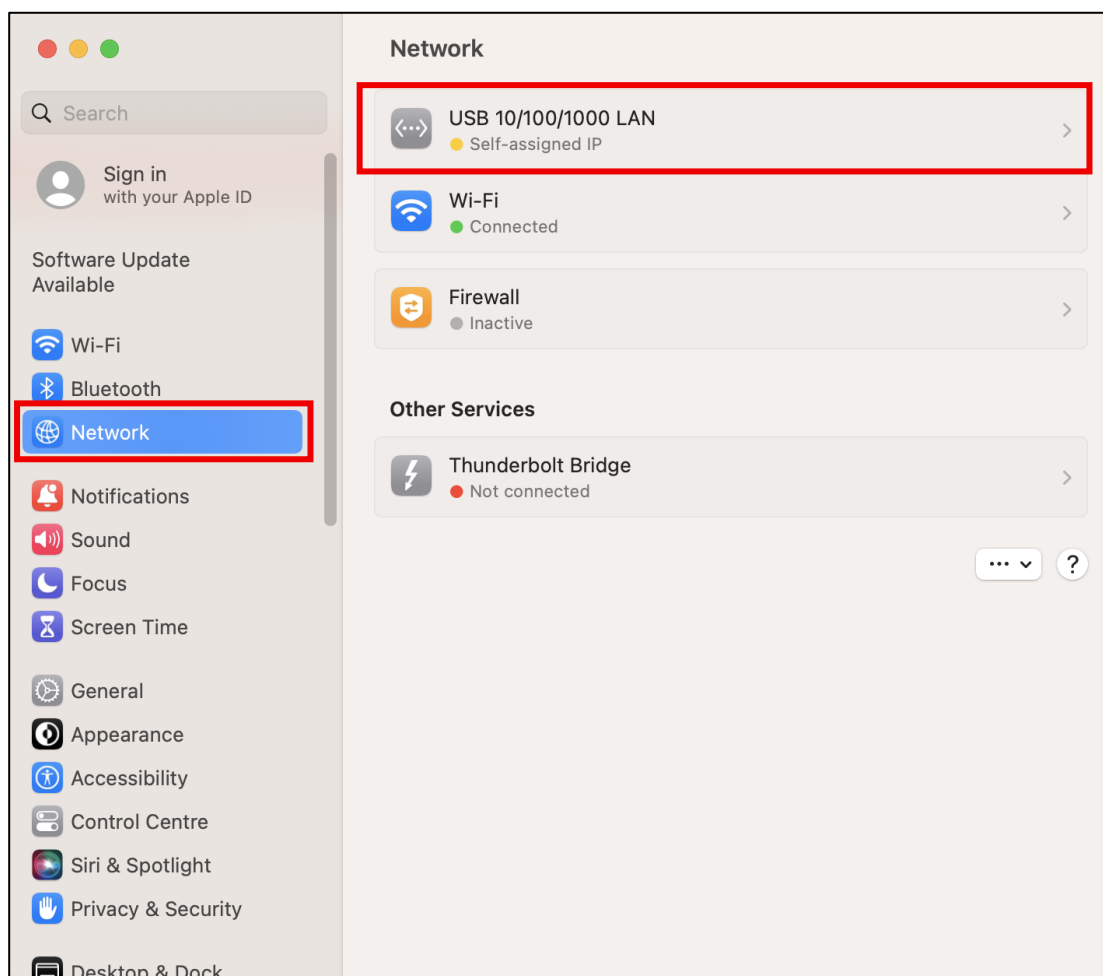

Figure 5: Network setting M1
- I) Go to Apple menu  > **System Settings**, click **Network**  in the sidebar, click a network service you want to edit, see Figure 5: Network setting M1.